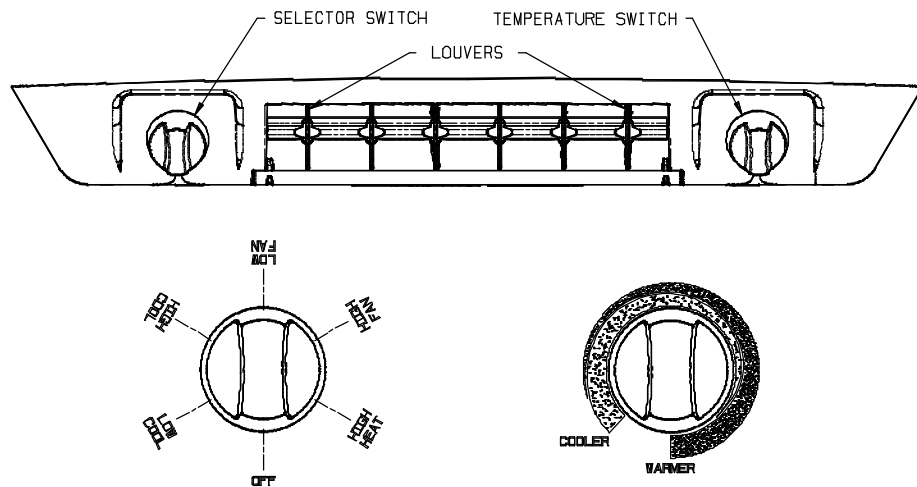

FIGURE 1
B. The Thermostat (temperature control) – The thermostat regulates the “ON” and “OFF” temperature setting at which the compressor will operate (See Figure 1).
roof top unit and ceiling assembly. Figure 1 shows selector switch location and available functions. The “Operation” section explains the operational characteristics of each mode of operation.
I. For Cooling (Refer to Figure 1, page 3).
IV. For Heating (Refer to Figure 1, page 3).
V. For Air Circulation Only (Refer to Figure 1, page 3).